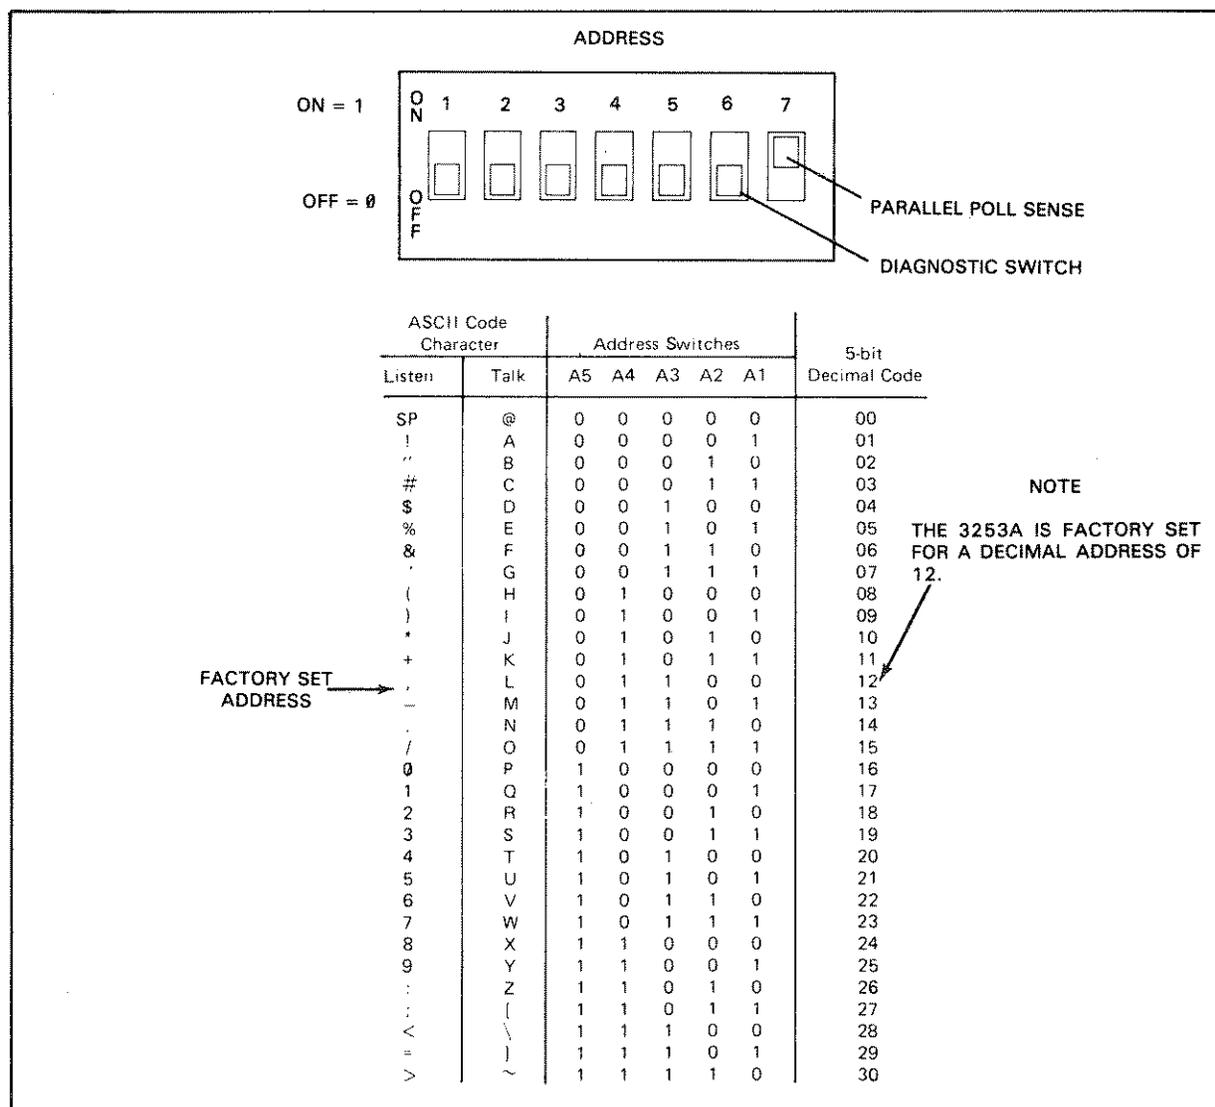

Figure 3-38. Address Selection.
**3-123.** Certain Meta Messages require that a specific listener and talker be designated on the bus. Each instrument on the bus has its own distinctive listen and or talk address. The device address provides the identity to distinguish it from other devices on the bus. The instrument receives programming instructions when address to listen. When address to talk, the instrument can output measurement data or send programming instructions if it is also the system controller. The address is set via jumpers or switches. Refer to Figure 3-38 for allowable address settings.